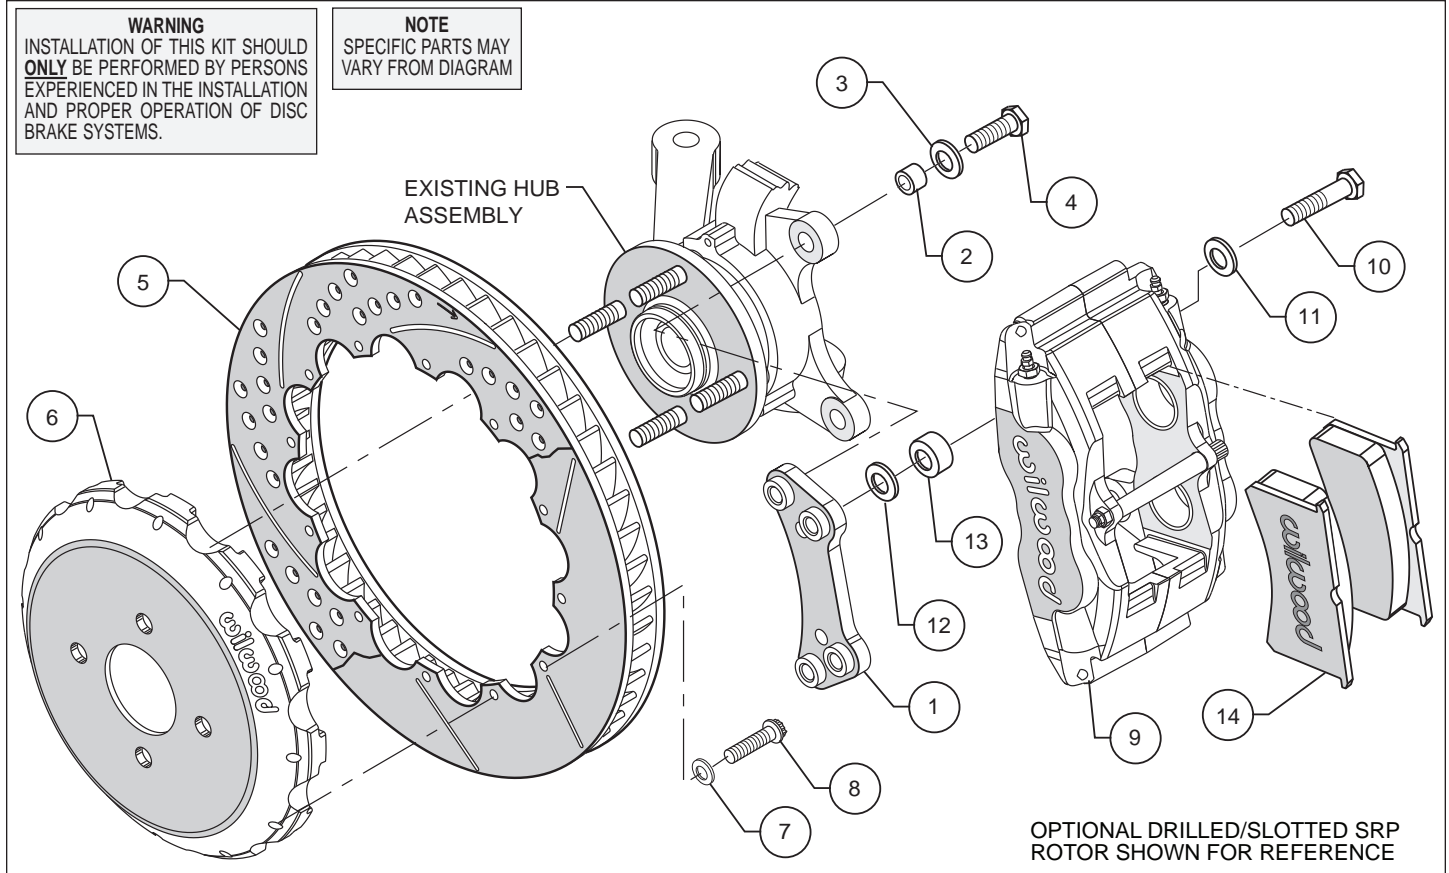

Figure 1. Typical Installation Configuration
- Insert one sleeve (2) each into the holes on the top and bottom of the spindle "ears" where the OEM caliper bracket was removed. Apply red *Loctite*® 271 to the caliper mounting bracket bolt threads (4) before installation of the caliper mounting bracket (1). Install the bracket with the flanged heads of the clinch nuts facing outboard, as shown in Figure 1. Slide bolt (4) through washer (3) and into the previously installed sleeve (2), from the backside of the hub. Finger tighten. Repeat for the lower mounting holes. Torque bolts to 60 ft-lb.
- NOTE:** Please reference the caution statement at the beginning of the assembly instructions. Mount the caliper (9) onto the caliper mounting bracket (1) using bolts (10) and washers (11). Insert spacer between the caliper ears and the bracket before tightening the bolts. View the rotor (5) through the top of the caliper. The rotor should be aligned in the center of the caliper. If not, loosen the two bolts and adjust the caliper by using 0.016 inch thick shims (12), placed between the spacer (13) and the bracket, Figure 1. Finger tighten and recheck alignment. Always use the same amount of shims on both the top and bottom caliper mounting bolts. Loosen the two bolts and apply red *Loctite*® 271 to bolt threads and torque to 60 ft-lb.
- Remove the caliper bridge bolt and install the disc brake pads (14) then reinstall the caliper bridge bolt. Repeat this procedure for the other wheel.